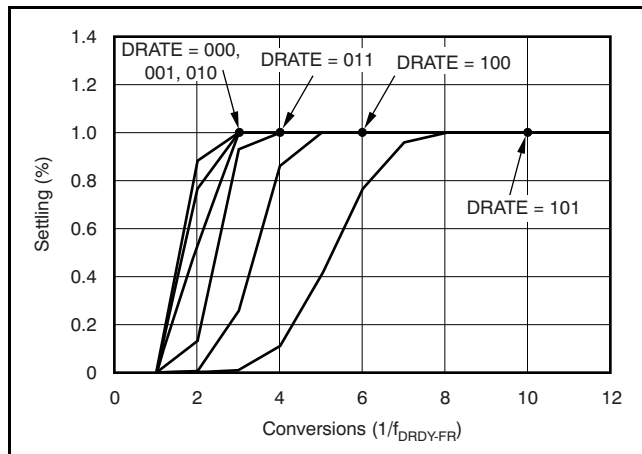

Figure 39. Step Response for Low-Latency Filter with Fast-Response Configuration
The readings after a step change in the input is settled as shown in Figure 39 for all different data rates.
(1) Refer to Figure 39 for other modes.